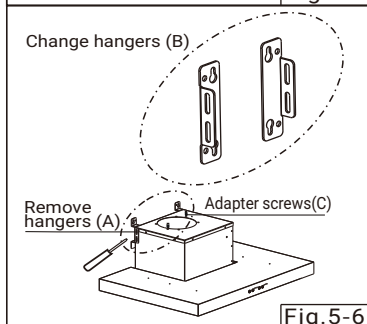

Fig.5-6
- (d) Loosen hangers (A) from body machine. Take out the hangers (B) from installation accessories and adjust the hangers (B) and screw them tightly on each side of body machine. Afterward, hang machine on the sleeve anchors and screw on screws tightly. (Fig 5-6)
8. Loosen 2 adapter screws (C) from ventilation duct. (refer to Fig 5-4) (Fig 5-6) And take out pipe adapter from installation accessories and install it on the air outlet and then fix them by these 2 adapter screws (C) .